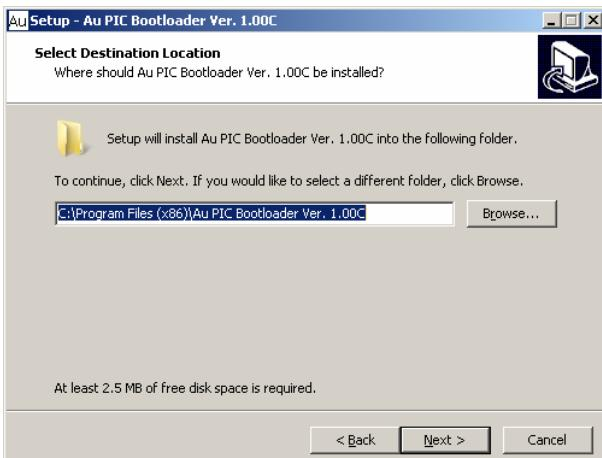

Figure C-4
- "Select Destination" window shows up, use default path: C:\Program Files\ AU PIC Boot-loader", then click "next" to continue (Figure C-4).